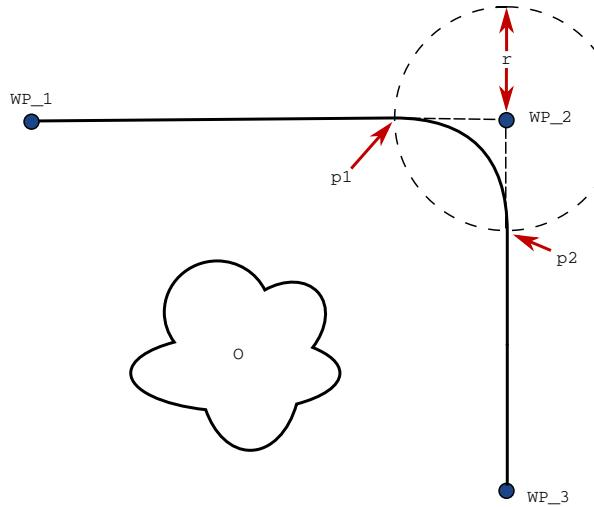

Figure 16.3: Blend over WP\_2 with radius  $r$ , initial blend position at  $p_1$  and final blend position at  $p_2$ .  $o$  is an obstacle.
**Blend parameters** Apart from the waypoints, multiple parameters will influence the blend trajectory (see figure 16.3):